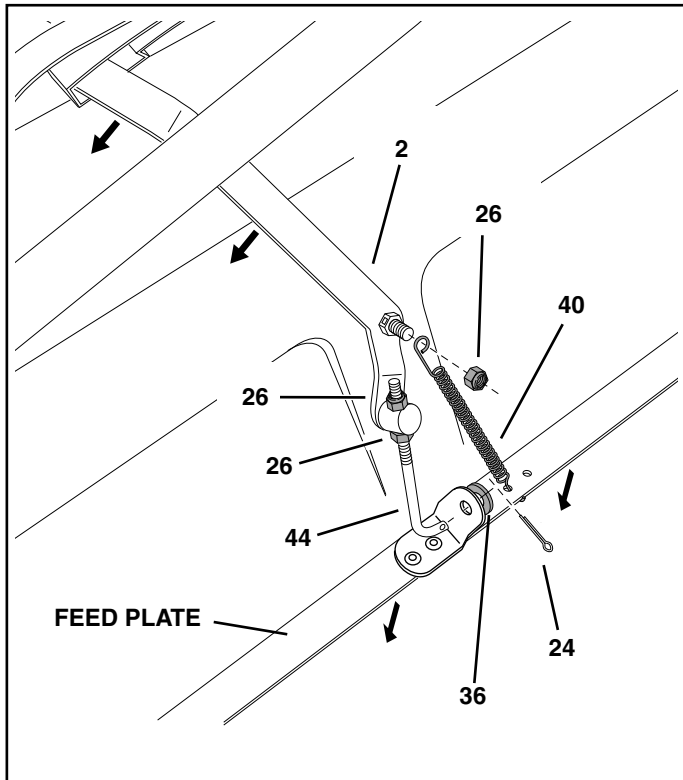

FIGURE 10
- Move the flow control lever (2) as far as it will go to the "OFF" position. Push the feed plate back as far as it will go to the closed position. See figure 10.
- Place a nylon washer (36) onto the bent end of the flow control link (44) and then insert the link into the feed plate bracket. Secure it with a 3/32" x 3/4" cotter pin (24). See figure 10.
- Tighten the lower 1/4" nylock hex nut (26) until it touches the bottom of the ferrule, then tighten the upper 1/4" nylock hex nut (26) until it is snug against the top of the ferrule. See figure 10.
- Hook the open end of the spring (40) into the feed plate. Place the closed end of the spring onto the end of the hex bolt in the flow control lever. Secure it with a 1/4" nylock hex nut (26). See figure 10.
- Open and close the feed plate using the flow control lever. Check to make sure the feed plate is closed completely when the lever is in the "OFF" position. If the feed plate does not close completely, adjust the 1/4" nylock hex nuts (26) on the flow control link (44). See figure 10.